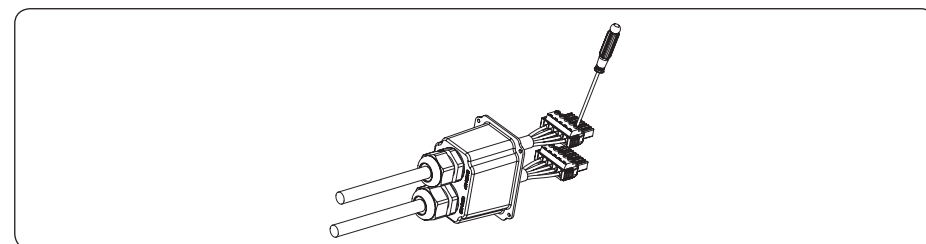

Figure 4-25
4) Lock the well-pressed cord end terminals into the AC connector in the accessory bag and make sure the cables sequence is in line with the mark on the connector, as shown in Figure 4-25: